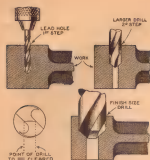

Fig. 1—How to drill large holes efficiently in successive stages, on a light press.
**D**RILLING of a large hole such as the bearing in a bracket, indicated by Fig. 1, is a job that occurs daily. Usually the hole is drilled at one operation using one tool in a heavy drill press. If done on a light drill press in successive steps, using drills of different sizes, the work will not be likely to strain the press and the position of the drilled hole can be held more readily.